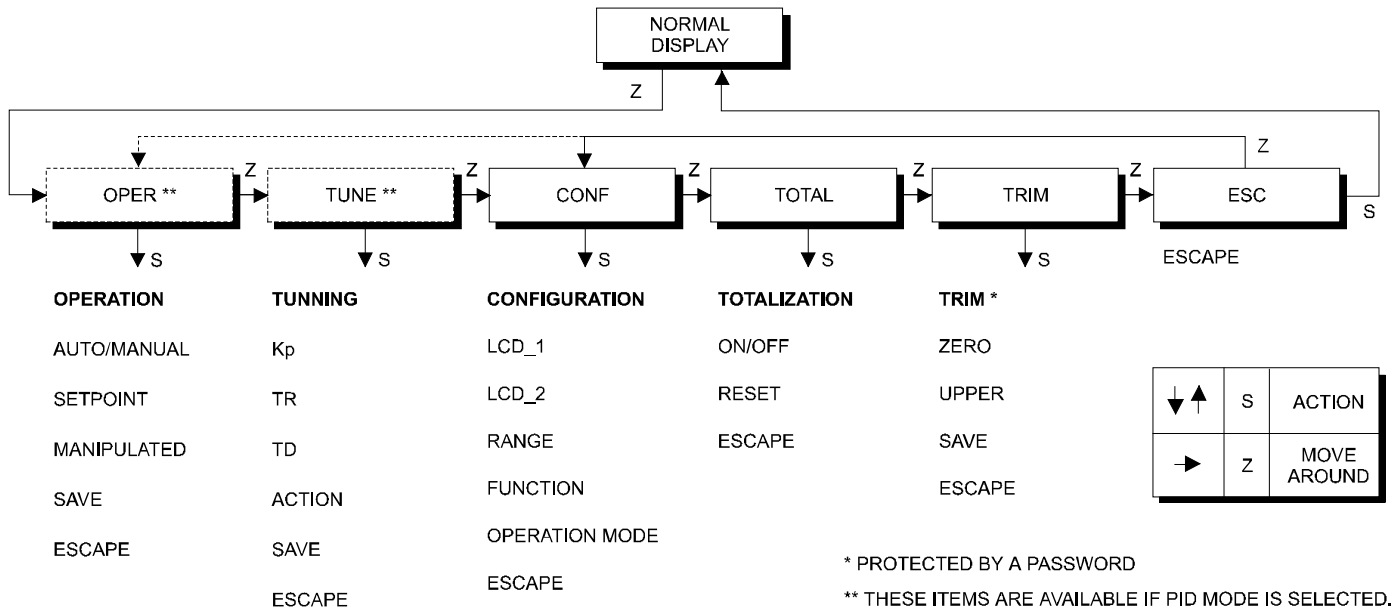

Figure 4.3 – Local Adjustment Programming Tree – Main Menu
- 2 - In order to reach the desired option, browse the options, wait until they are displayed and move the magnetic tool from **(Z)** to **(S)**. Refer to Figure 4.3 – Local Adjustment Programming Tree, in order to know the position of the desired option. By placing the magnetic tool once again in **(Z)**, it is possible to browse other options within this new branch.
The local adjustment uses a tree structure where, by placing the magnetic tool in (**Z**) it is possible to browse the options of a branch and, by placing it in (**S**); details of the chosen option are shown. Figure 4.3 - Local Adjustment Programming Tree shows the **LD301** available options.